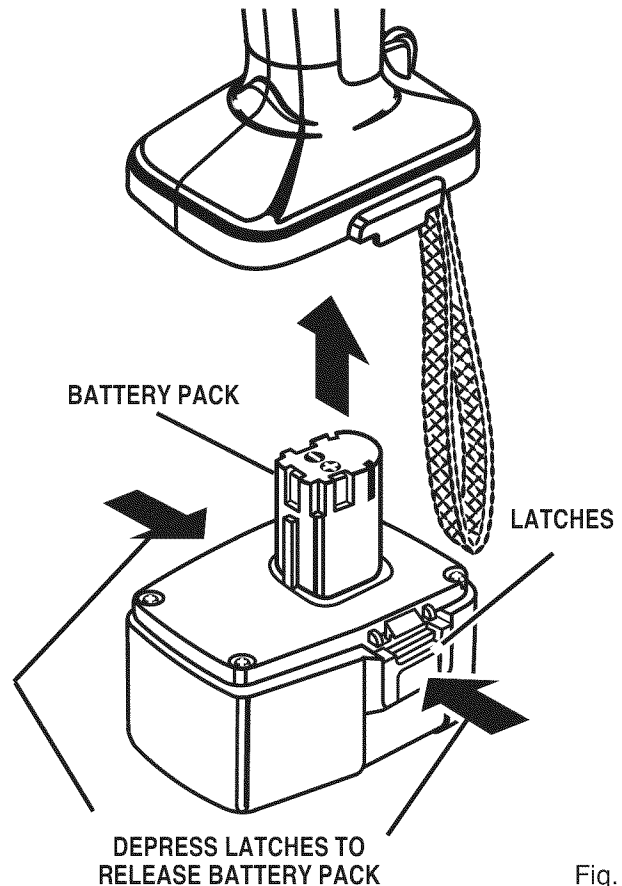

Fig. 4
See Figure 4.
- Place battery pack in your drill. Align raised rib inside drill with groove on battery pack. See Figure 4.
- Locate latches on end of battery pack and depress to release battery pack from your drill. See Figure 4.